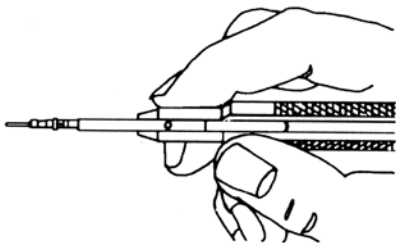

Figure 3-7. Locating Contact into Insertion Tool
2. Locate contact in insertion tool as shown in Figure 3-7.